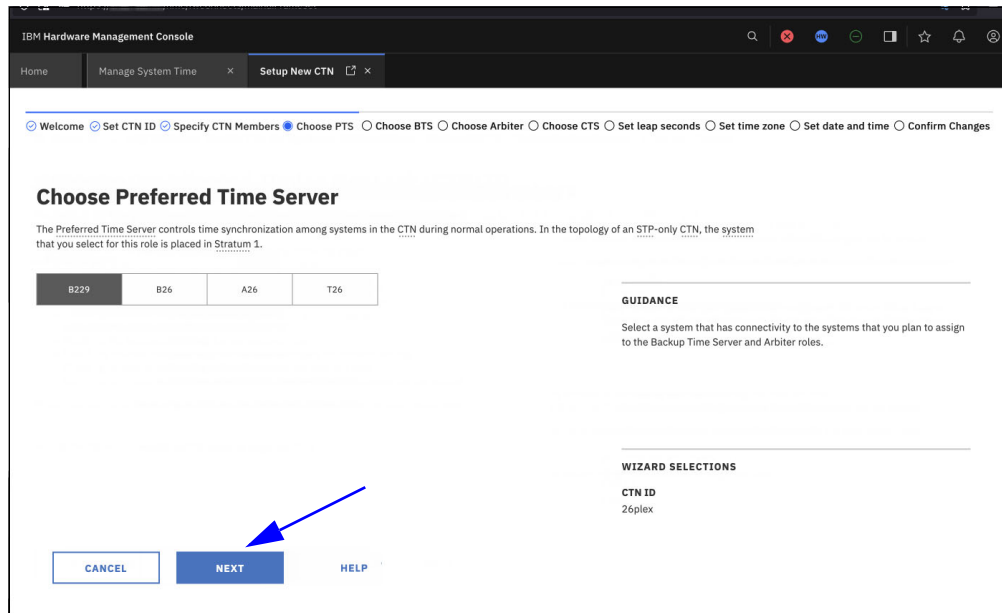

Figure 3-9 Select the Preferred Time Server (PTS)
7. In the following steps, configure server roles (Preferred Time Server, Backup Time Server, and Arbiter). The first server role that is selected is the Preferred Time Server and is shown in Figure 3-9 on page 46. After selecting the server, click **Next**.